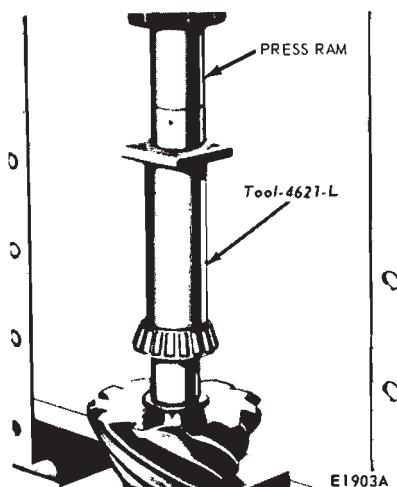

FIG. 37—Installing Pinion Rear Bearing Cone
1. Install the drive pinion rear bearing cone and roller assembly on the pinion shaft as shown in Figs. 37 and 38.
3. Position the bearing retainer and cup assembly on the pinion shaft and install the front bearing cone and roller. Press the front bearing cone and roller assembly into position, as shown in Fig. 37.